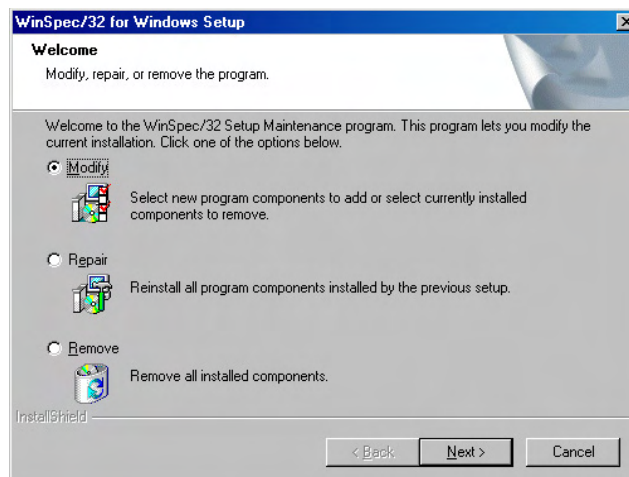

Figure 205. Maintenance dialog box
2. Because WinSpec/32 was previously installed, the **WinSpec Maintenance** dialog box (Figure 205) will be displayed.